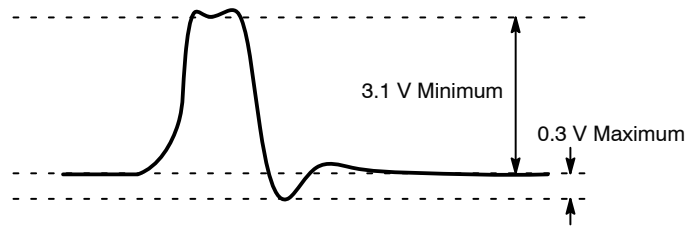

Figure 9. RG Clock Overshoot
21. Reset Clock Operation: The RG1, RG23 signals must be capacitive coupled into the image sensor with a 0.01 µF to 0.1 µF capacitor. The reset clock overshoot can be no greater than 0.3 V, as shown in Figure 9, below: